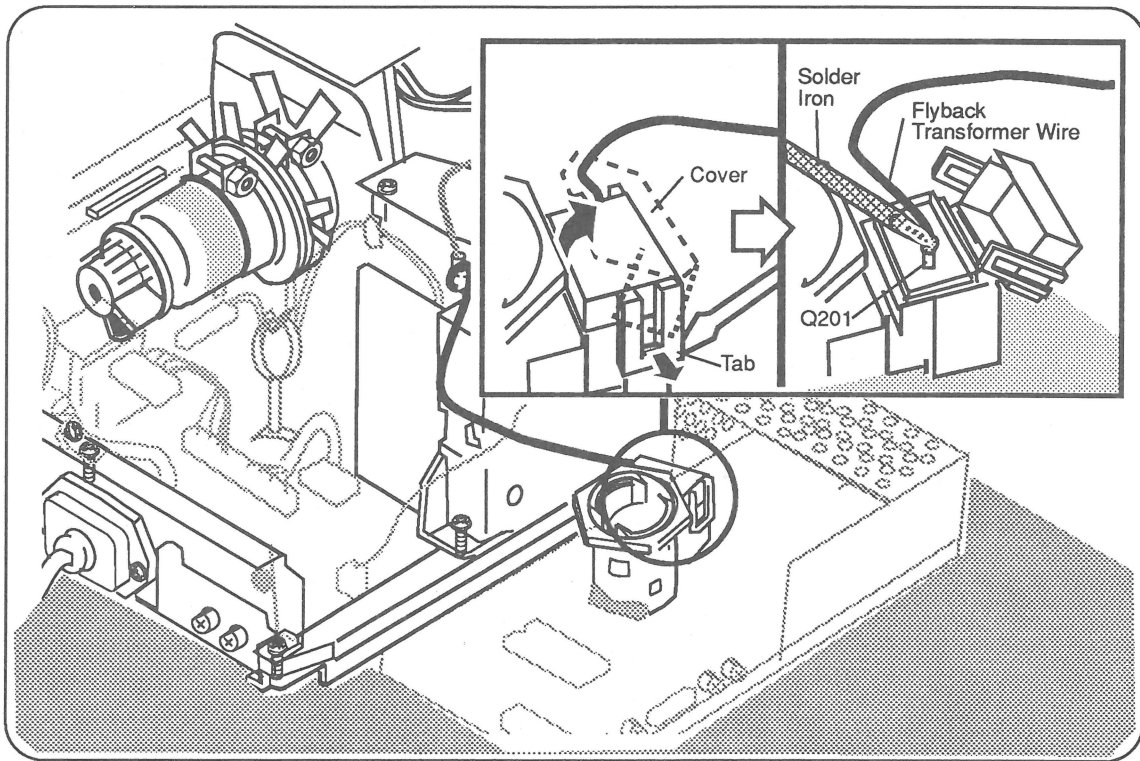

Figure 2-8 Desoldering the CRT Video Board
9. **Figure 2-8.** Place the CRT video board on the protective mat next to the flyback transformer.
10. **Figure 2-8.** Unfasten the two side tabs and open the white plastic cover over connector **Q201**. You may need to use a small flat-blade screwdriver to open the tabs on the side of the cover.
11. **Figure 2-8.** Using the low-wattage soldering iron, desolder the flyback transformer cable from connector **Q201**.
1. **Figure 2-8.** Unfasten the two side tabs and open the white plastic cover over connector **Q201**.
2. **Figure 2-8.** Using the low-wattage soldering iron, solder the flyback transformer cable to connector **Q201**.